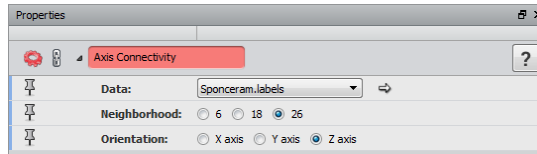

Figure 24.6: Axis Connectivity Module Configuration
3. Apply an *Axis Connectivity* module on the *Sponceram.labels*. Select a Neighborhood of 26 voxels in the neighborhood port. This allows keeping only the connected porosity of the sample (see Figure 24.6).